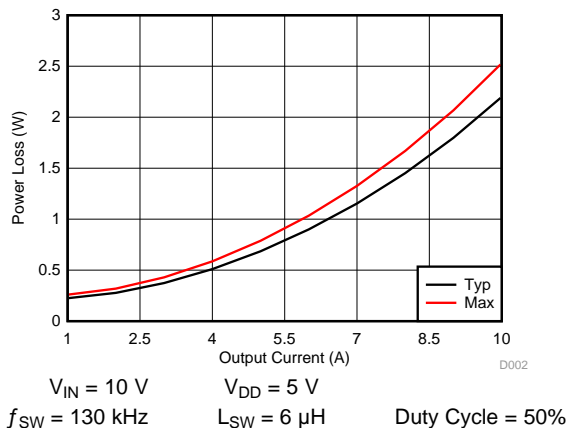

Figure 3. Power Loss vs Output Current
- Typical Power Loss at 9 A = 1.78 W (Figure 3)